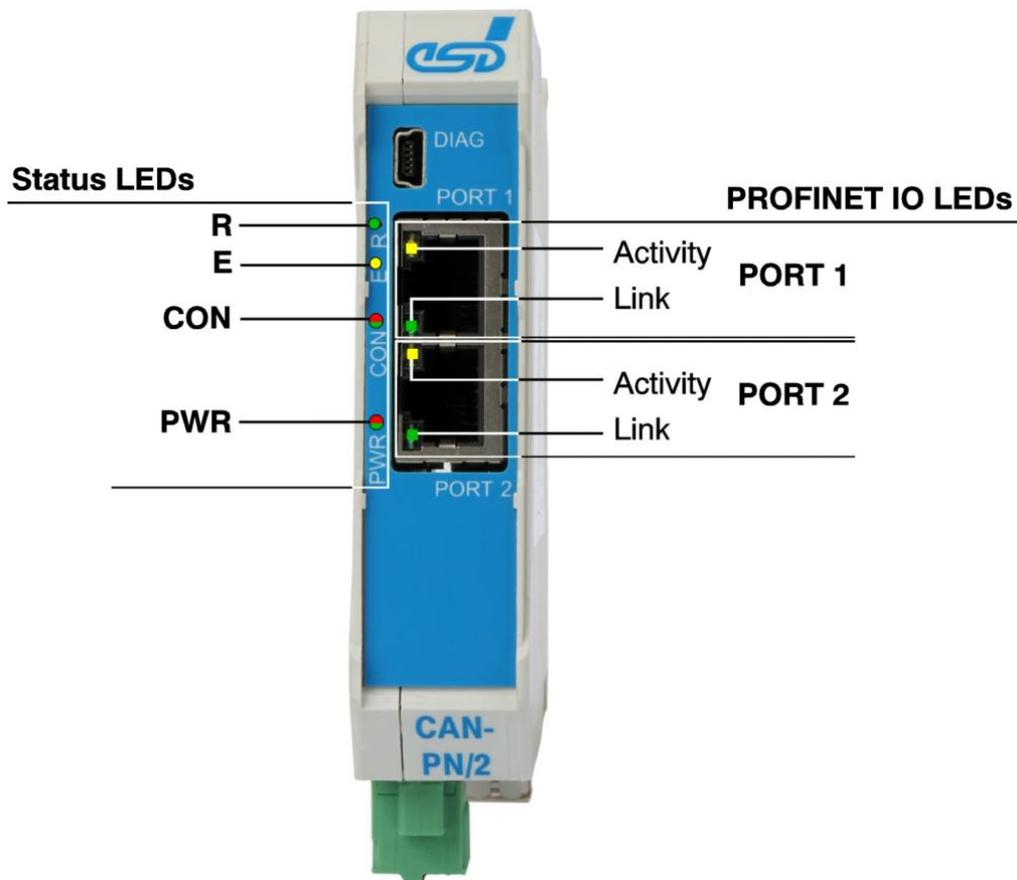

Figure 5: LEDs of CAN-PN/2 (C.2924.02)
The name plate (Figure 5) shows among others the name, MAC-ID, esd order No. (PN) and the serial number (SN).